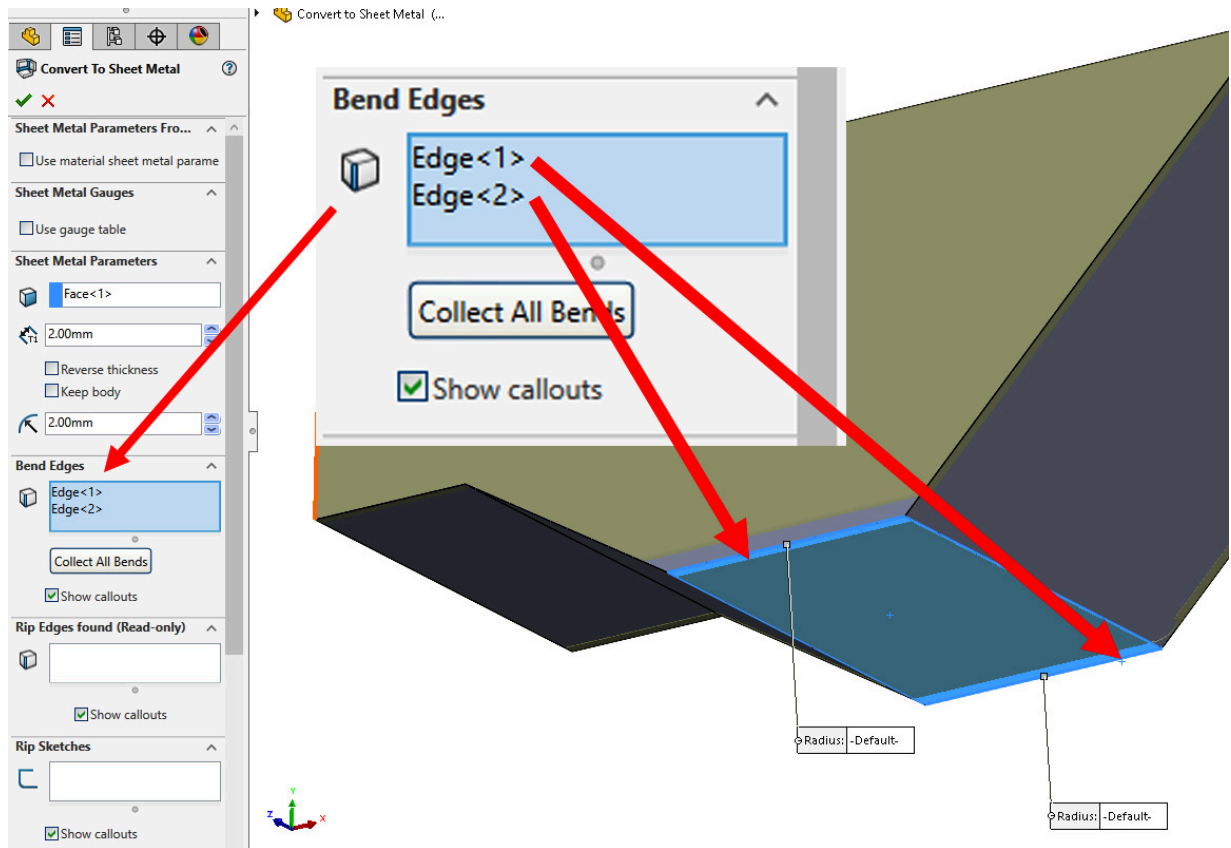

Figure 12.5: Select the edges to bend
8. Next, we must select the edges where we'd like to add bends. Click in the **Bend Edges** selection box and then select the two edges shown in *Figure 12.5*.